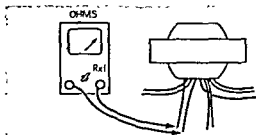

FIG. 8-9 Checking resistance of each winding.
2. Read the resistance of each winding, as shown in Fig. 8-9.